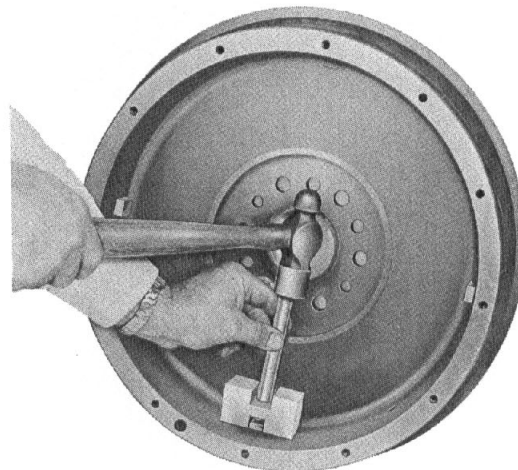

Fig. 33 – Driving Pin Alignment Gauge T-10670A.
(1) Before installing the clutch on the flywheel, check for free fit of cover assembly to flywheel before proceeding with installation.
(2) 14"-2 – Be sure that intermediate drive pins are a press fit in holes in flywheel rim and that the heads are perfectly square to the friction surface. Lipe-Rollway tool T-10670A will assist in install-new pins and assure that they are properly aligned. See Fig. 33. Drive pins must be square to provide proper clearance for the drive slots in the intermediate plate. If the Lipe tool T-10670A is not available, a machinist's square and feeler gage may be used to check for squareness.